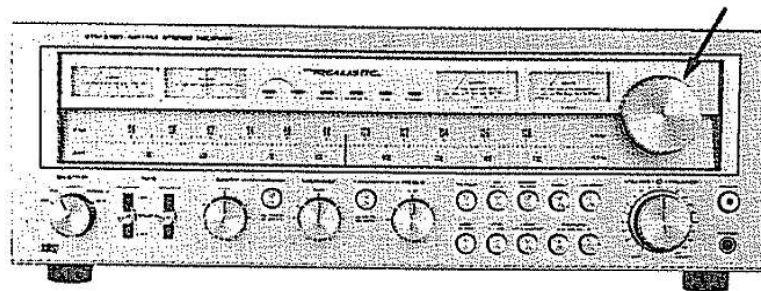

Figure C4
- d) Loosen the Tuning Knob screw with an Allen wrench and remove Tuning Knob. All other knobs can simply be pulled off. (Figure C4)